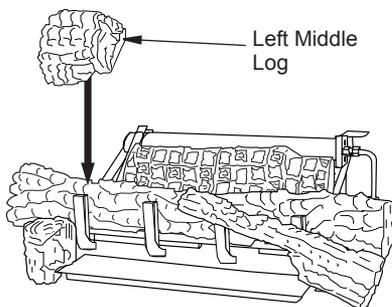

Figure 43 - Installing Left Middle Log
6. The left middle log (18" D-066, 24" & 30" D-040) has a groove on the bottom to sit on the chassis and has to sit on the tab on the back of the left front log as shown in Figure 43.